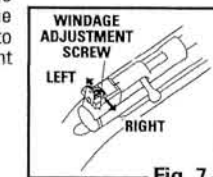

Fig. 7
- The rear sight may be adjusted to shoot right or left (windage). Loosen the windage adjustment screw by turning it counterclockwise. Move the sight to the right to make the pellet hit to the right on the target. Move the sight to the left to make the pellet hit to the left on the target. Then tighten the windage adjustment screw by turning it clockwise. (Fig. 7)